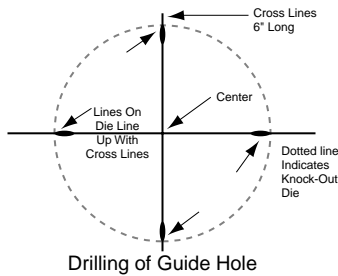

Figure 1
- a. If working to close tolerances, mark the center position by scribing cross lines shown in Figure 1.